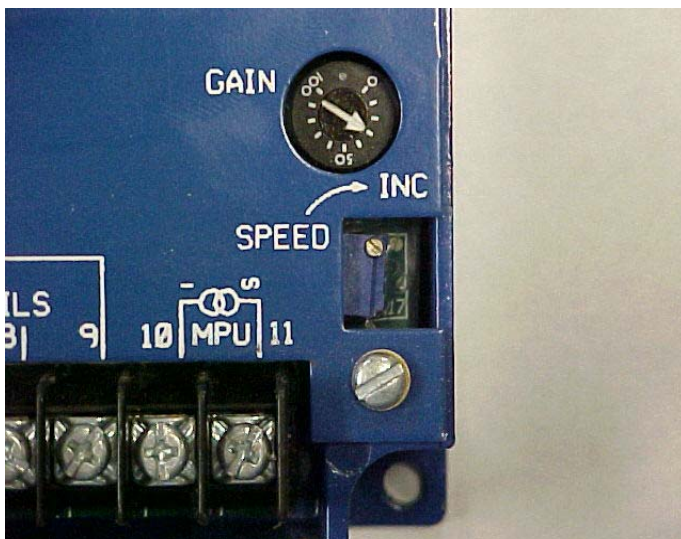

Figure 2
4. On the Governor Controller, locate the High Speed Adjustment Screw as pictured in Figure 2.